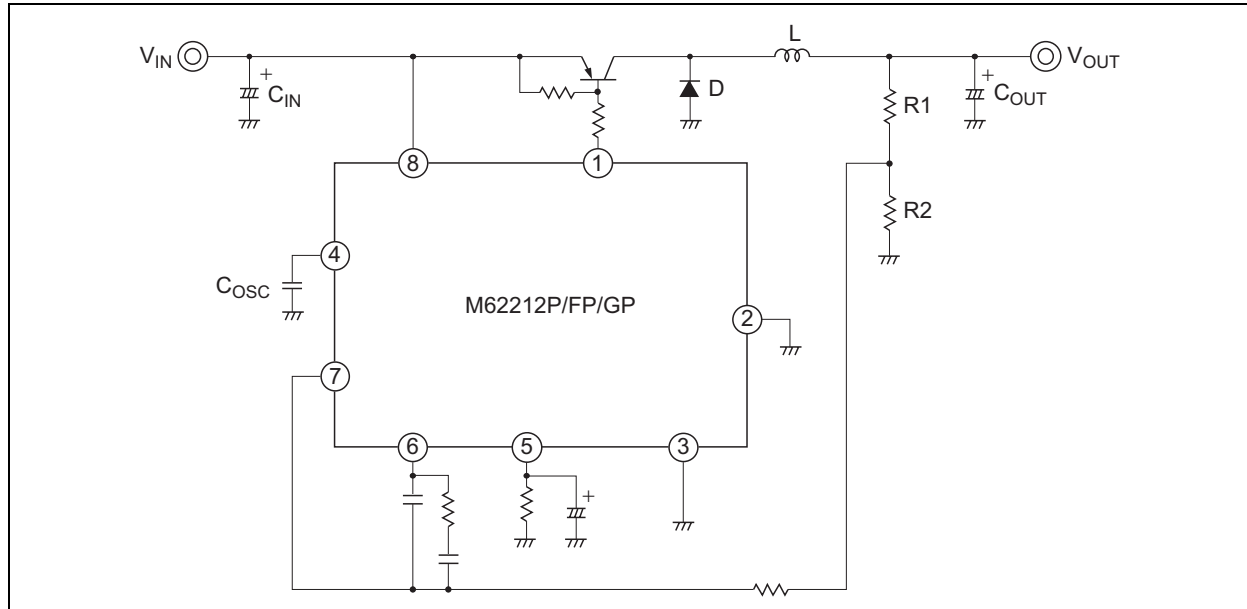

Figure 1 STEP-DOWN Converter with Current Buffer Transistor
- 1) Soft start (The peripheral circuit is shown in Figure 1)